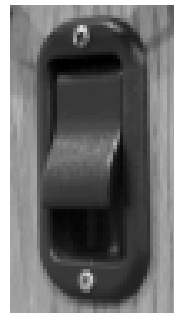
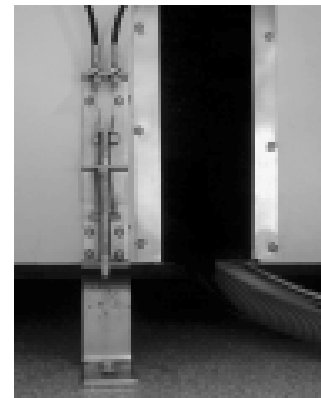

Fig. 3-9
Fig. 3-10
3. Lift up on the release lever (Fig. 3-9). This will release the latch (Fig. 3-10) so the galley will slide into position.
2. Lift up on the release lever. (Fig. 3-9)
3. Lift the release lever. (Fig. 3-9)